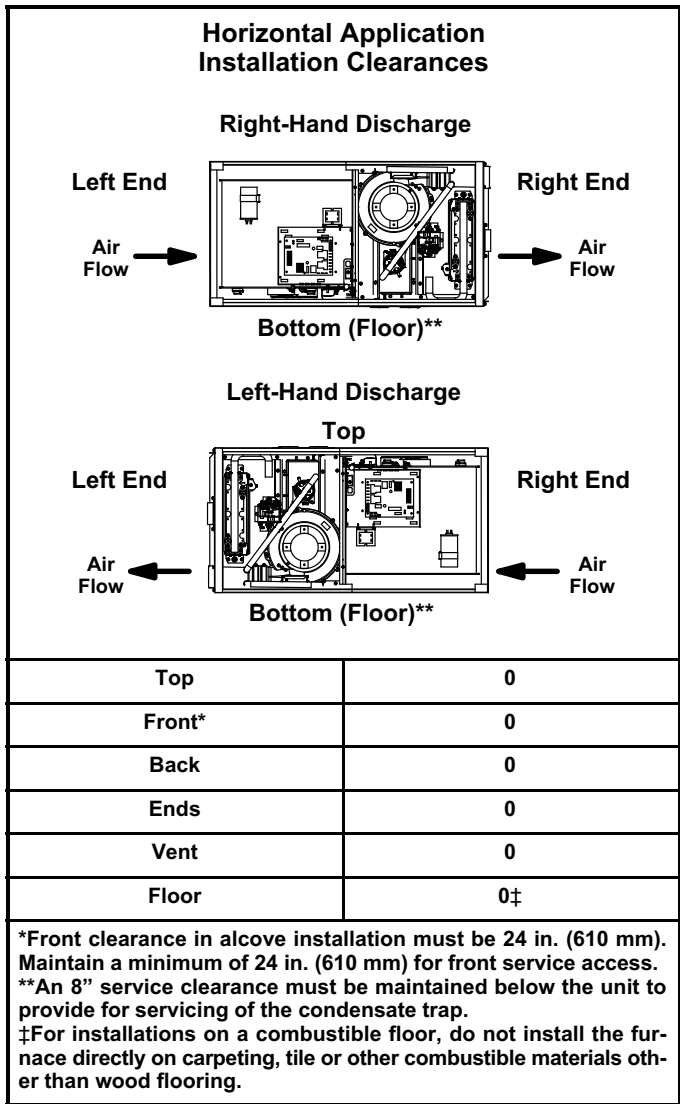

FIGURE 17
The ML193UH furnace can be installed in horizontal applications with either right- or left-hand air discharge. Refer to figure 17 for clearances in horizontal applications.
- 1 - Select location for unit keeping in mind service and other necessary clearances. See figure 17.